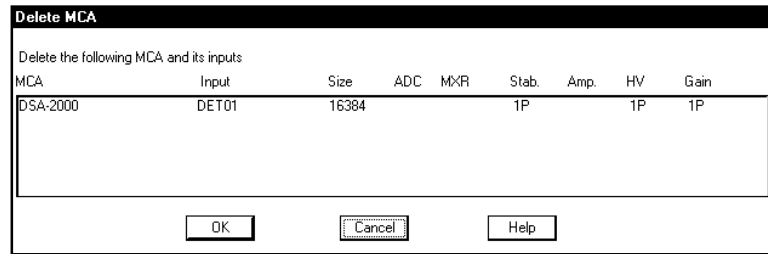

Figure 13 The Delete MCA Dialog
2. Clicking on the **Delete MCA** command in the **Edit** menu to see the Dialog Box in Figure 13. Click on **OK** to remove the entry.